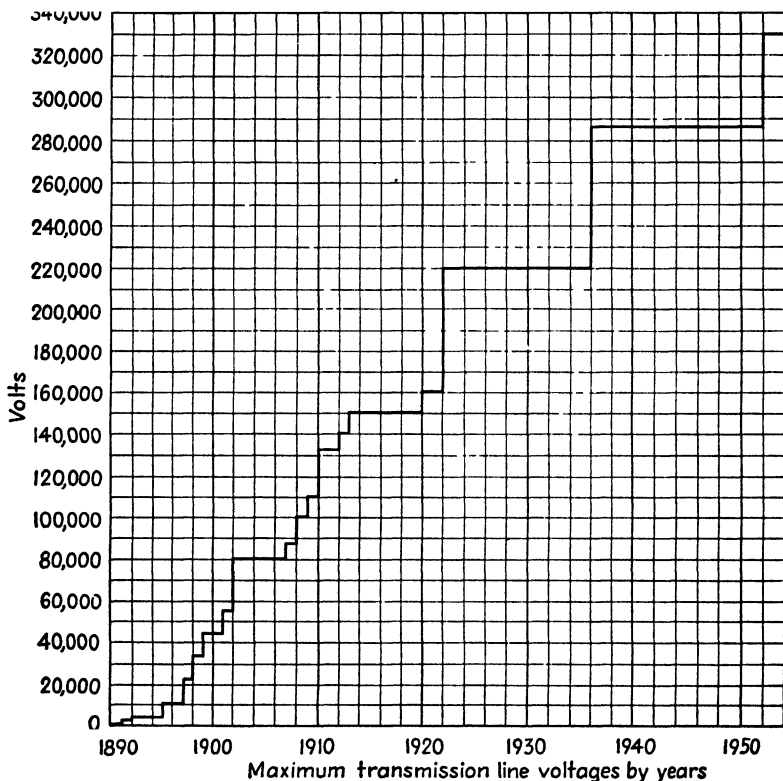

FIG. 8-1. Maximum transmission-line voltages by years.
**Historical.** The voltages used on transmission lines have been steadily rising. The chart of Fig. 8-1 shows how the maximum voltage